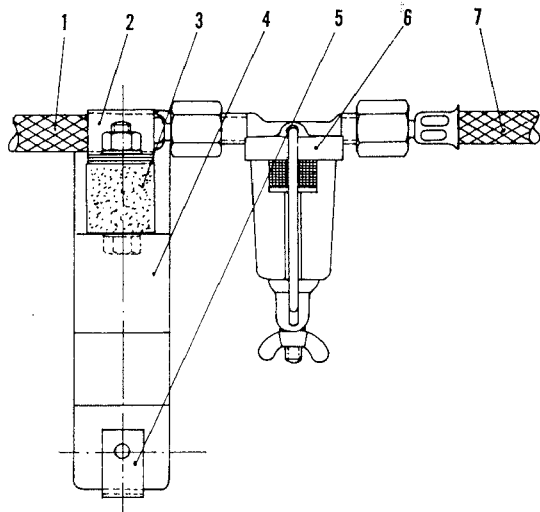

Fig. 10
14. Secure fuel line between fuel pump and heater. The long fuel line is mounted between pump and filter, the short between filter and heater. The filter and fuel line are mounted at the right rubber support at the heater (see Fig. 10).